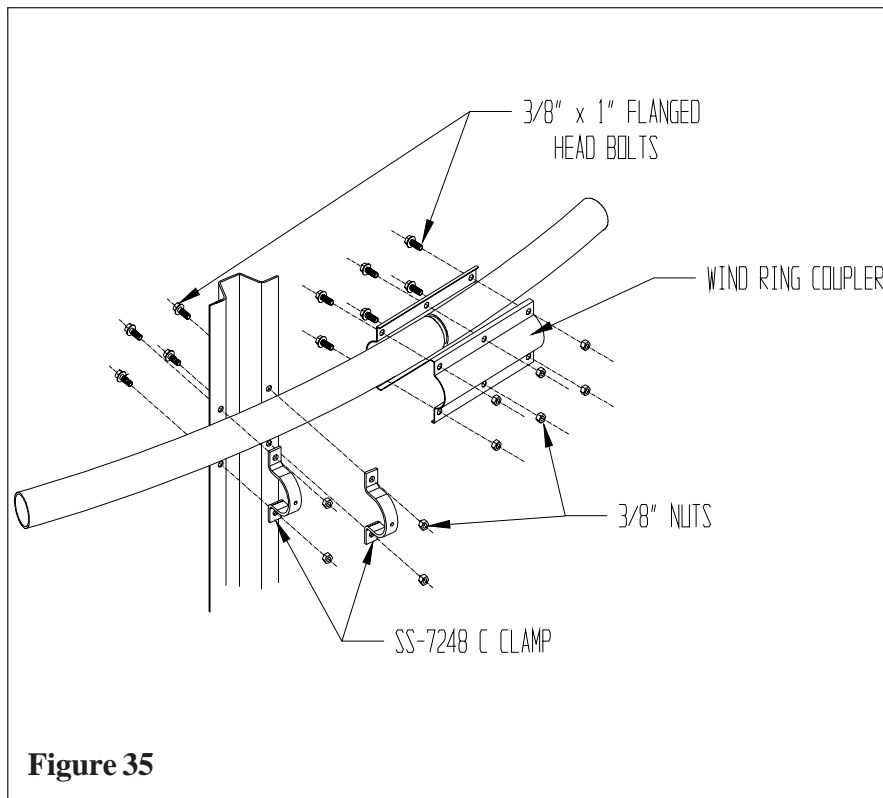

Figure 35
2. To connect wind ring pipe to the stiffeners, attach with 3/8" x 1" bolts through the flange of the stiffener. (See Figure 35.) In some cases field drilling of wind ring locations may be required.
3. Attach wind ring pipe section to stiffener using (2) 3/8" x 6" (S-7248) wind ring clamps. (See Figure 35.)
4. Place pipes end to end without overlapping. Fasten together using (2) wind ring couplers and (6) 3/8" x 1" flanged head bolts with nuts. Couplers should be centered on the seam of pipes. (See Figure 35.)